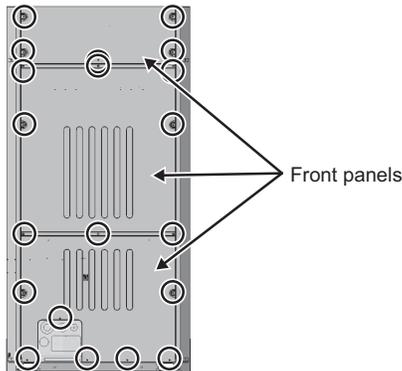

Fig. 1
(1) Remove the panel from the unit. (20 screws: Fig. 1)